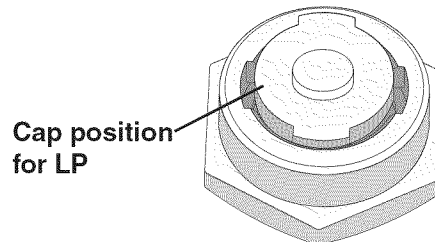

Figure 11
4. Reinstall the cap and plug securely onto the regulator (Figure 11).